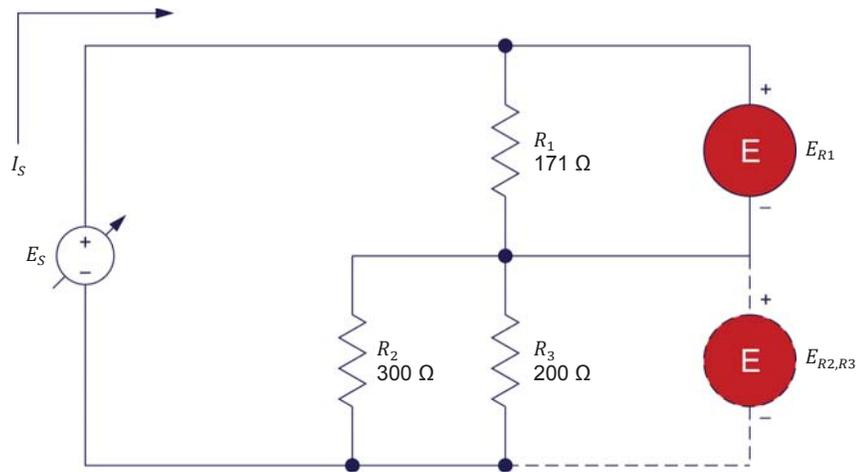

Figure 32. Circuit made of resistors connected in series-parallel.
22. Set up the circuit shown in Figure 32. To obtain the resistor arrangement of Figure 32, make the necessary connections and switch settings on the Resistive Load module.
- 23.** Calculate the equivalent resistance  $R_{Eq.}$  of the resistors in Figure 32. Then, calculate the source current  $I_S$  based on the equivalent resistance  $R_{Eq.}$  and the source voltage  $E_S$  of 50 V.
Disconnect the voltmeter from resistor  $R_1$  and connect it across parallel resistors  $R_2$  and  $R_3$ , as Figure 32 shows. Record the voltage  $E_{R2,R3}$  indicated by the voltmeter in Table 4.
2. Consider the circuit of Figure 32. If the voltage of the source  $E_S$  doubles, what happens to the current flowing through each resistor and to voltages  $E_{R1}$  and  $E_{R2,R3}$ ?
3. If the value of resistor  $R_3$  in the circuit of Figure 32 is reduced by half, does the current through resistor  $R_2$  increase or decrease?